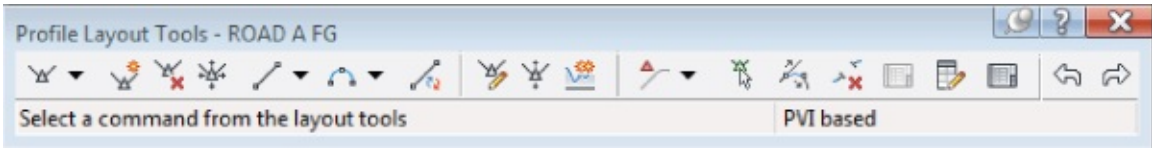

Figure 7.15 Profile Layout Tools toolbar
7. Click OK to display the Profile Layout Tools toolbar shown in Figure 7.15.